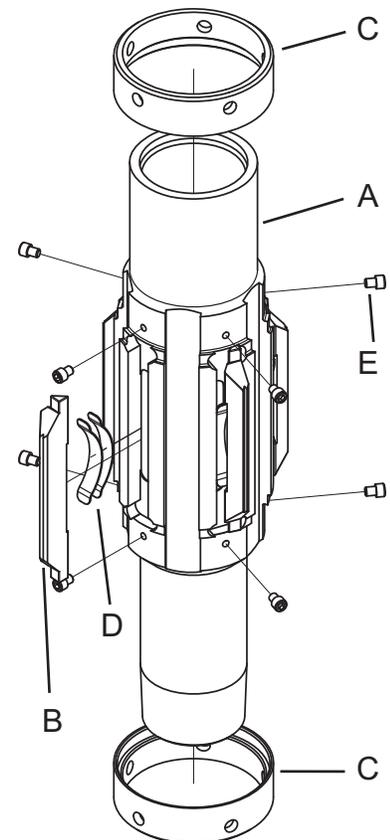

Figure 4
- 1.) Disassemble the torque anchor to its individual components (Fig. 4):
- ▶ Body (A)
- ▶ Anchor Blocks (B)
- ▶ Retaining Ring (C)
- ▶ Spring (D) *
- ▶ Hex Socket Screw (E) *